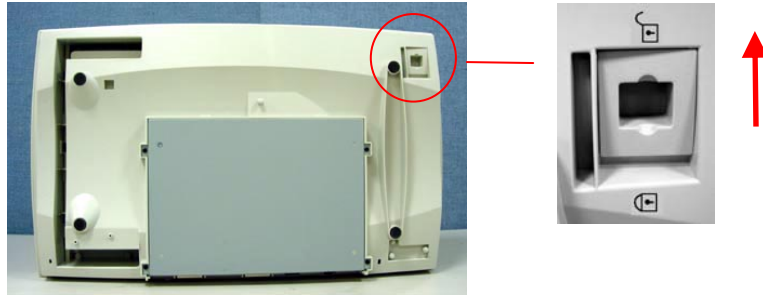

Figure 2-1 Unlocking the Shipping Switch
- ii). Unlock the scanner by moving the lock switch beneath the scanner to the "Unlock" position (See Figure 2-1).